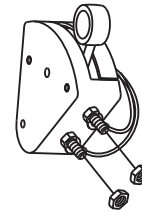

Figure 13. Safety Stop Switch Connection
5. Remove one 7mm nut from each of the terminals on the Safety Stop Switch. (Leave the existing two wires to the switch connected.) (Figure 13).